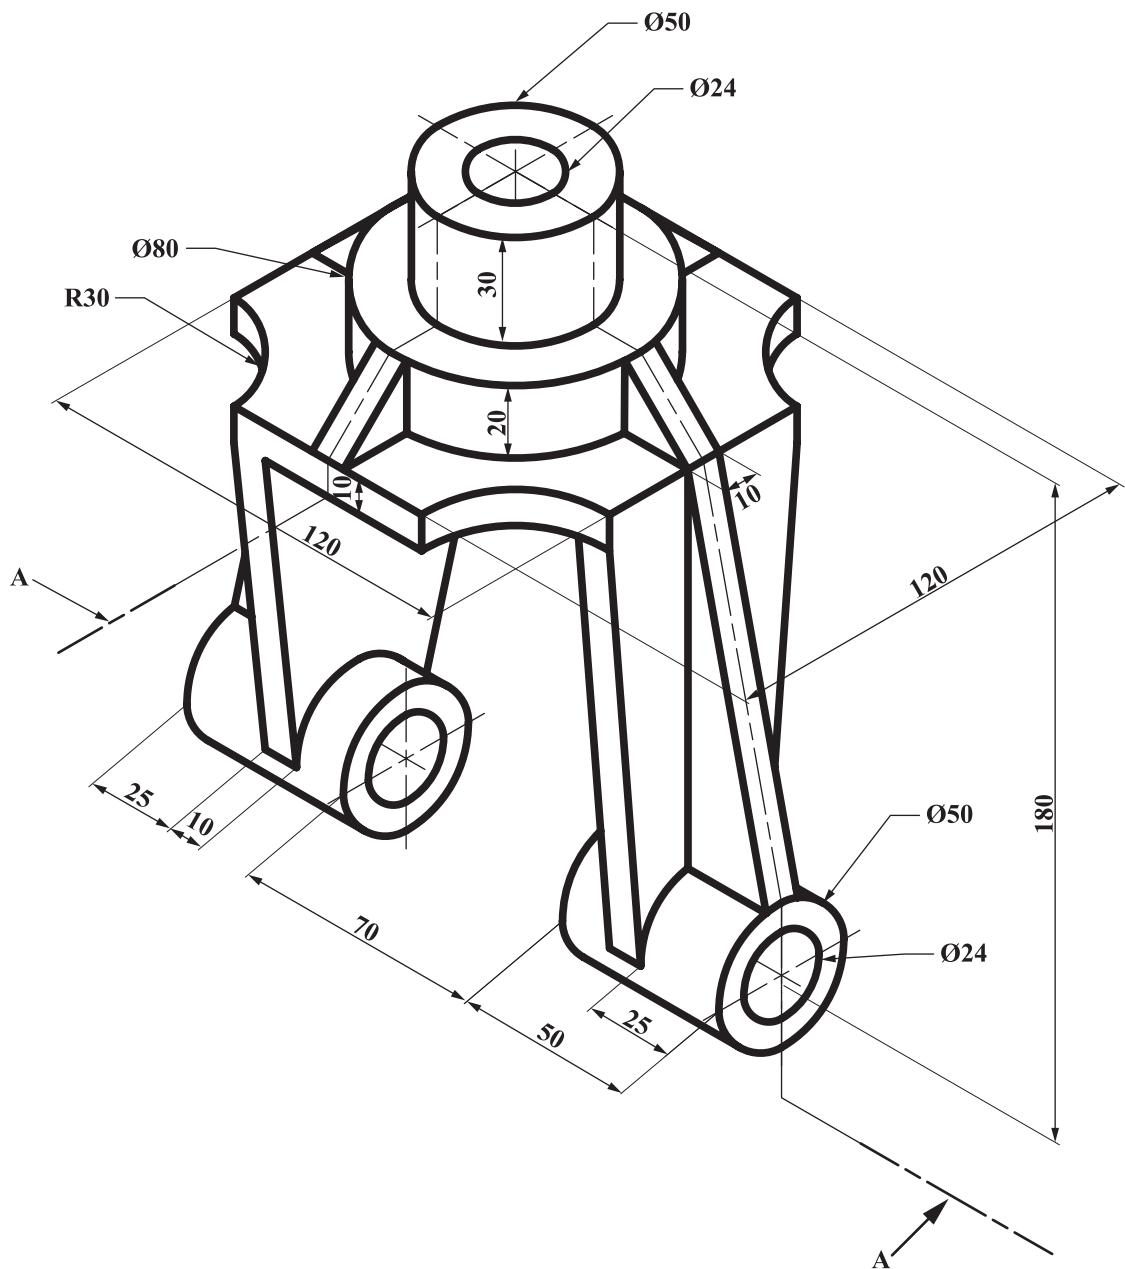

Figure 4. Bearing bracket
- (b) Figure 4 shows the pictorial view of a bearing bracket with the front view identified by the arrow A.